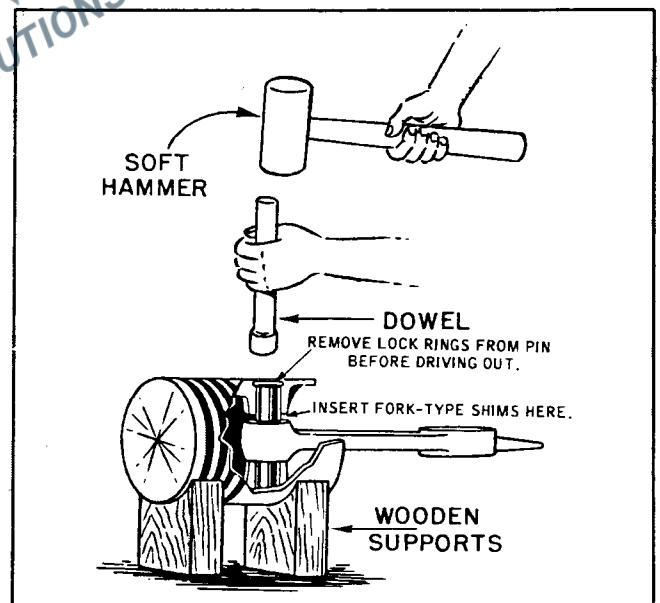

Figure 6-11. Recommended Method of Removing or Replacing Piston Pin.
- C. Remove the piston pin lock rings from their grooves and, with a dowel of approximate size and a soft hammer, drive out the piston pin. Important: To prevent piston distortion during this operation, play between the piston pin bosses and connecting rod must be eliminated by inserting fork-type shims of the necessary thickness between the rod and boss. See Figure 6-11.